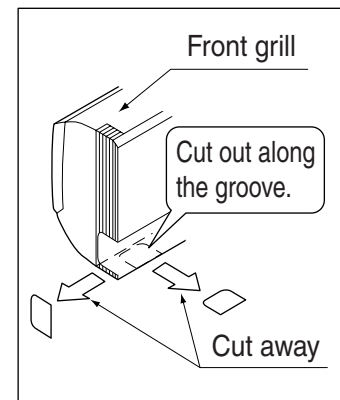

Fig. 4
- (a) Check the place for the hole using the included paper pattern for installation (3).
- (b) Temporarily attach the installation panel (1) at the temporary-securing position on the paper pattern for installation (3) and use a level to make sure the drain hose is either level or tilted slightly downward.
- (c) Secure the installation panel (1) to the wall using either screws or bolts.
- If using the attachment screws for the installation panel (2), attach using at least 4 screws on either side (for a total of 9 screws) of the recommended installation cleat position on the included paper pattern for installation (3).
## (3) If using the left, bottom-left, right, or bottom-right positions for the piping, cut out the through-hole for the piping in the front grill. (Refer to Fig. 4)